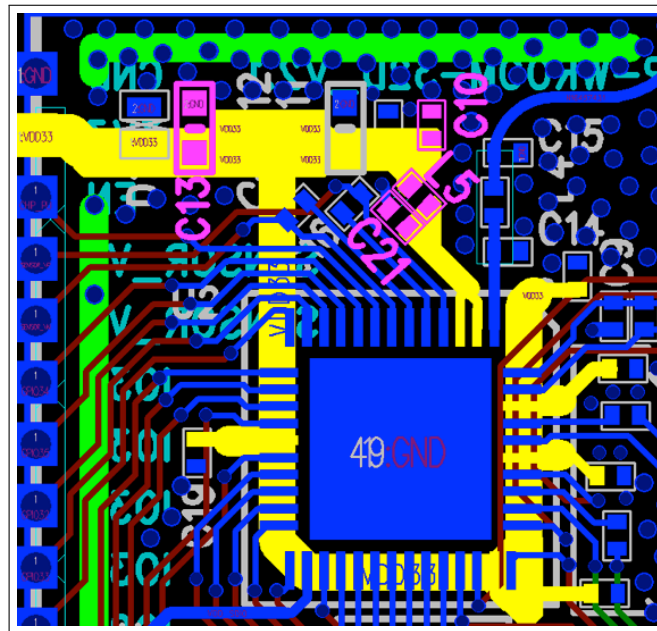

Figure 14: ESP32 Power Traces in a Four-layer PCB Design
- The 3.3 V power traces, highlighted in yellow, are routed as shown in Figure 14. The width of the main power traces should be greater than 25 mil. The width of the power traces for pin3 and pin4 should be at least 20 mil. The width of other power traces should be within the range of 12 ~ 15 mil.
- As shown in Figure 14, an ESD protection diode is placed close to the power port (marked in red circle). A 10 μF capacitor is required before the power trace connects the ESP32 chip, to be used in conjunction with a 0.1 μF capacitor. Then the power routing is divided into two ways. The power rails of pin3 and pin4 should be routed together to reduce the coupling between different power pins.
- It is required to place C (capacitor) and L (inductor) near the power pins pin3 and pin4. As shown in Figure 14, C13 (10 μF) is placed at the entrance of the power, and C10, L5, and C21 are placed near the chip's analog power pins. When possible, add a 0.1 μF capacitor to each digital power supply pin. Note that all decoupling capacitors should be placed close to the power pin, and ground vias should be added adjacent to the ground pin for the decoupling capacitors to ensure a short return path.